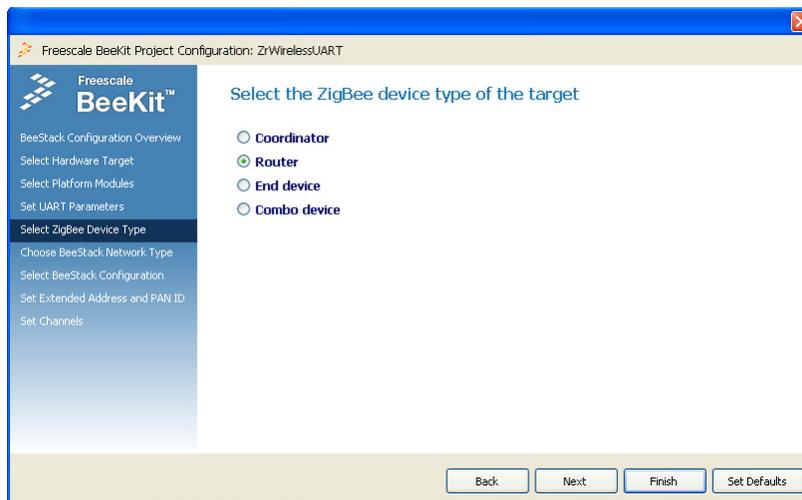

Figure 5-13. Selecting “Router” as the Device Type
2. Select “WirelessUART” and name the project ZrWirelessUART as shown in Figure 5-13.
3. Continue clicking the Next button until reaching the “Select ZigBee Device Type” window as shown in Figure 5-13. Select the “Router” option and click on the Next button.